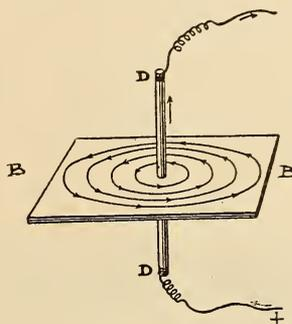

FIG. 41.
The magnetic flux that moves in circular paths around the axis of the conductor through which an electric discharge is passing also possesses direction; or, in other words, polarity. This, indeed, would naturally follow from the fact that an active conductor causes the magnetic needle to point to it in certain direction. Without going any further into this subject at present, it may be said that if, as in Fig. 41 (Houston's "Electricity in Everyday Life") (DD) represents a conductor through which